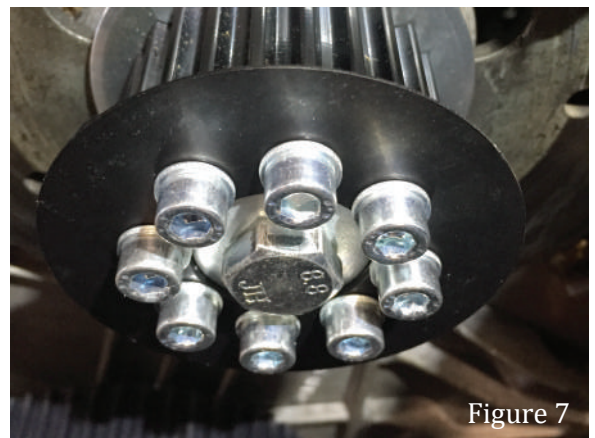

Figure 7
- b) Hub Style 24+ gear. Install hub, gear, supplied Bellville washer, factory Polaris upper gear bolt with red Loctite then torque to 45 ft. lbs. Holding your brake will make this easier. Install top gear outer flange plate with 8x bolt and washers use blue Loctite and torque to 9 ft. lbs. See fig 7